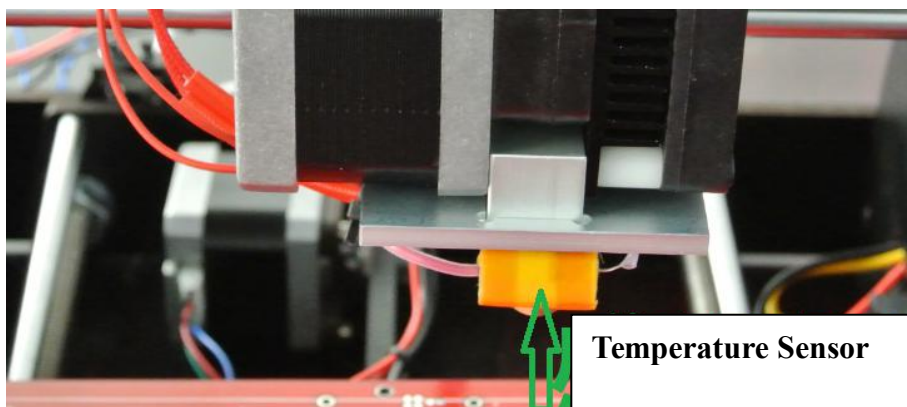

Figure 26
1. Identify that the sensing resistor of temperature sensor cable of nozzle is in the correct position, as shown in figure 26.